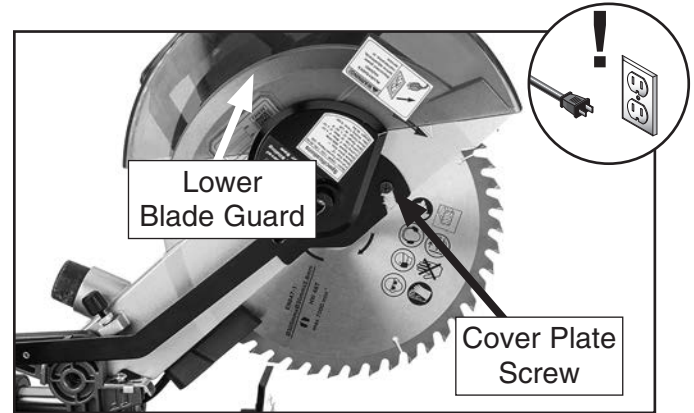

Figure 31. Cover plate screw location.
3. Pull back lower blade guard, as pictured in **Figure 31**, to reveal cover plate screw.